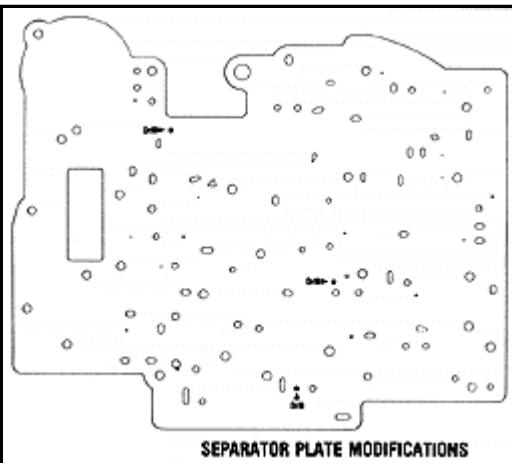

Figure 6
STEP 6 SEPARATOR PLATE: All applications: (See Figure 6) Using 1/8" drill bit supplied with kit, enlarge the three (3) holes indicated on **Figure 6**. Deburr and clean before reinstalling plate.